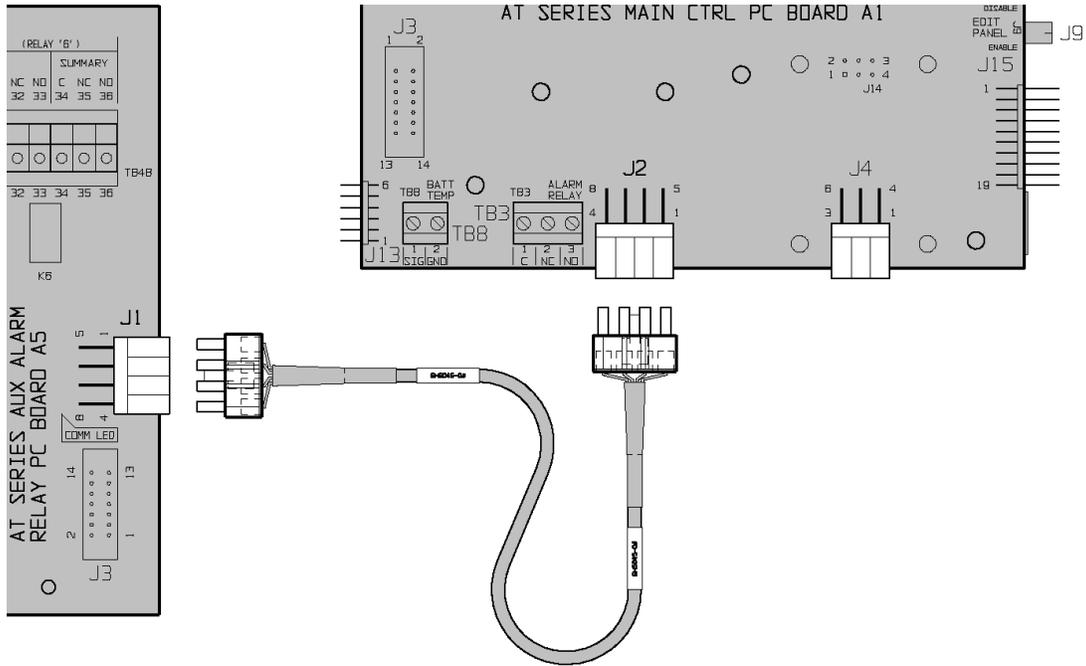

Figure 5 - serial cable interconnection
- 6) Insert the 8-pin nylon plug ends of the interconnection cable into **A5-J1** at one end, and **A1-J2** at the other (**Fig. 5**).